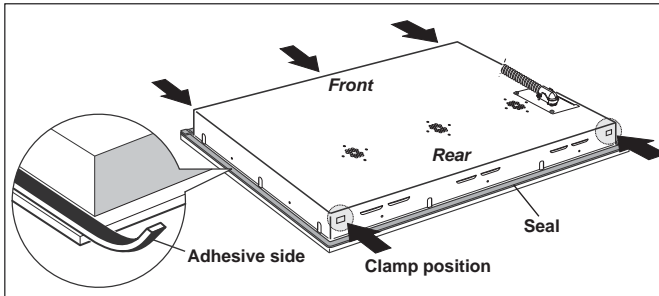

Fig. 6 Preparing the cooktop before installation
- 2 Spread the seal around the edges of the cooktop with the adhesive side facing down, as shown in Figs. 6 and 7. Make sure that the whole perimeter is sealed. Cut off any excess material.